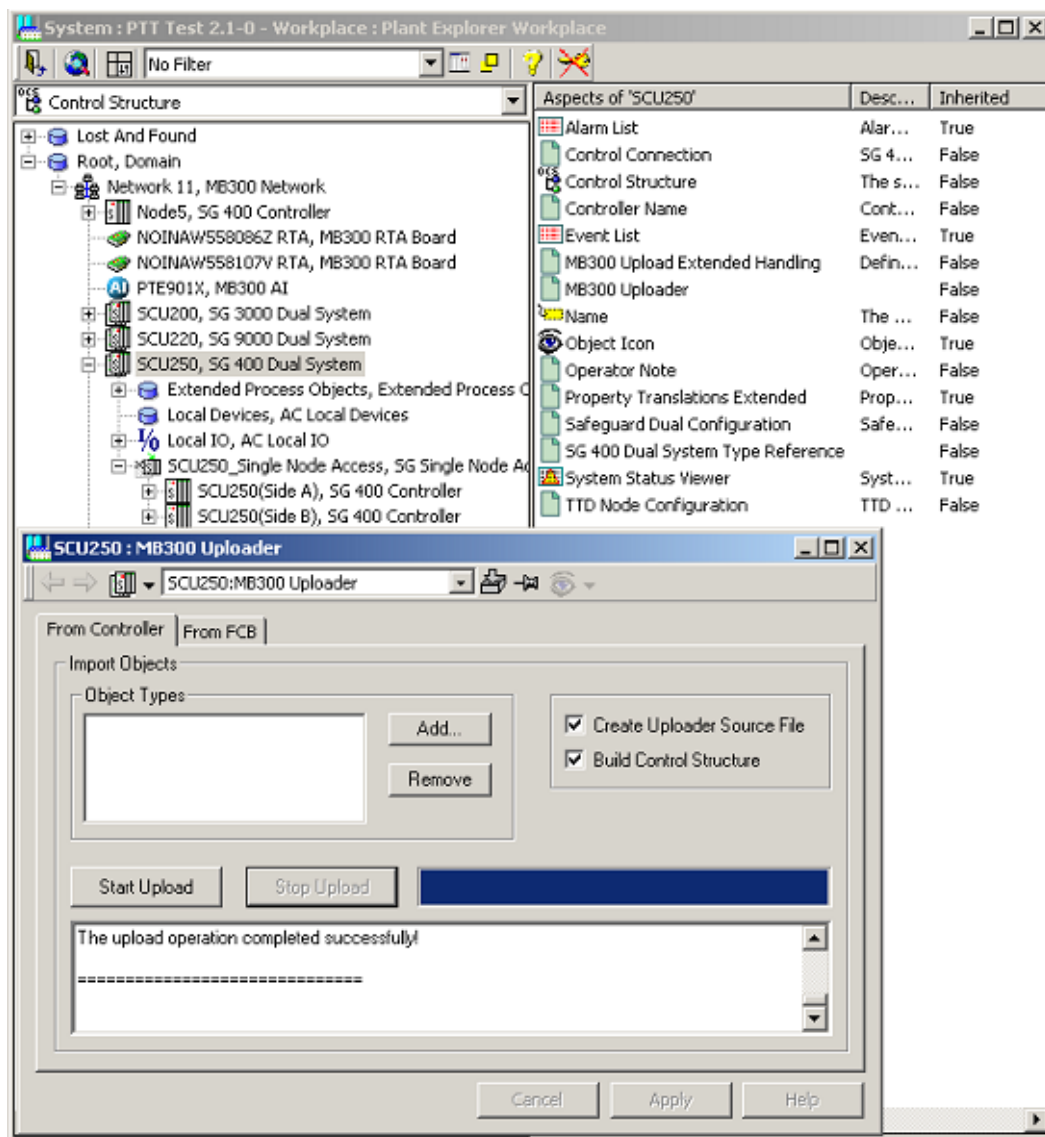

Figure 7. MB300 Uploader Aspect
5. Select the node and bring up the MB 300 Uploader aspect to start the upload, see Figure 7.
MB300 Uploader aspect supports retrieval of data from the controller and automatically builds up a control structure with objects subordinated to the controller object. The user can upload all the available objects or only the objects of one or several object types (e.g. analogue inputs). In the latter case click on the **Add** button (see Figure 7) to select the object types for the upload. After you have made the selection click on **Apply**. For a controller with many objects of certain types it
Click on **Start Upload** when you are ready for the upload. The upload process will start and run automatically until finished. The window in the lower part of the aspect view displays messages describing the progress, see Figure 7.